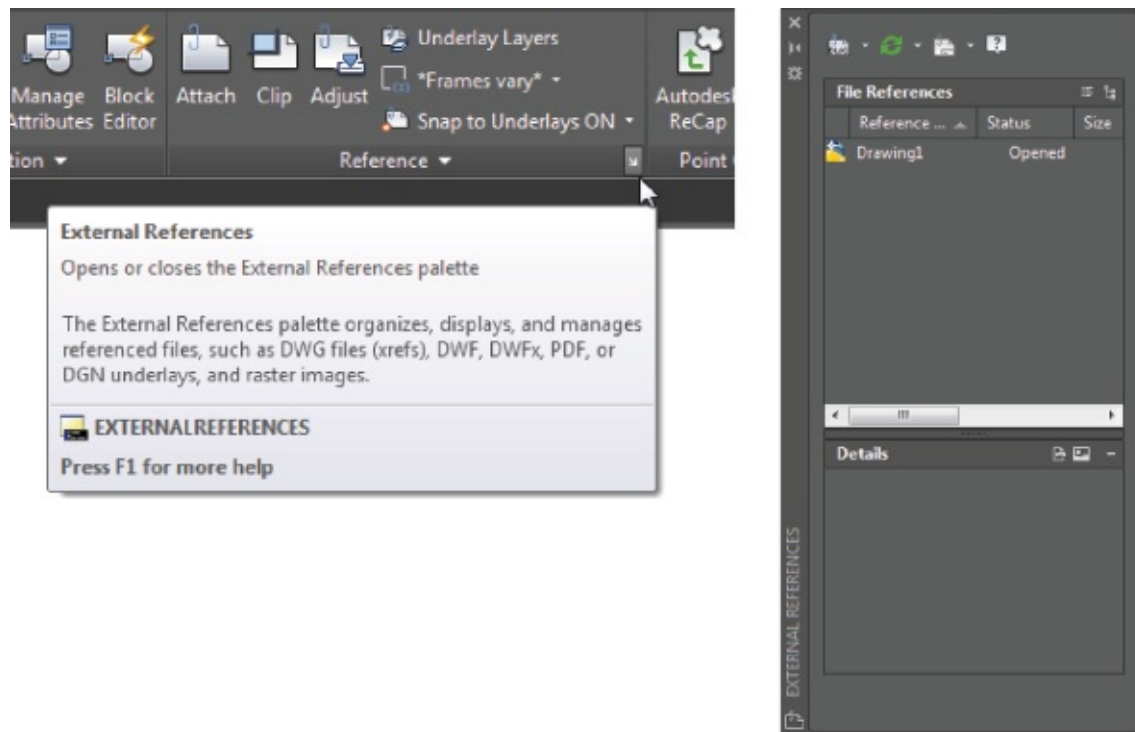

FIGURE 13.1 The External References palette allows you to import raster images.
2. Click the External References tool on the Insert tab's Reference panel (see Figure 13.1) to open the External References palette, which lets you import a full range of raster image files.